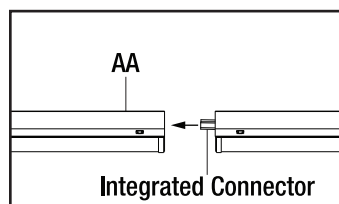
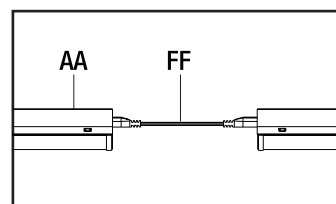

Fig. 1
Fig. 2
- Connect each additional fixture using either the linking cable (FF) or end-to-end with integrated connector on the fixture. Connect end-to-end with integrated connector on the fixture (see Fig. 1) or insert the linking cable (FF) (see Fig. 2) into the receptacle in the end of each fixture body (AA). When using the linking cable (FF), the maximum distance between two light fixtures is 12 inches.